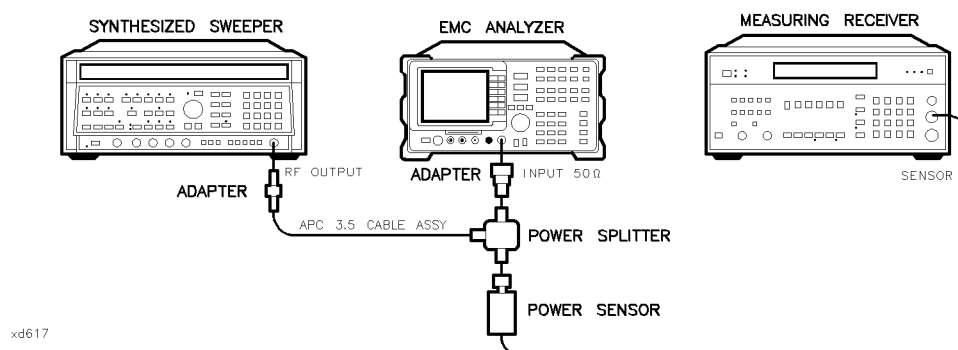

Figure 2-31. Frequency Response Test Setup, ≥ 50 MHz, HP 8596EM
2. Connect the equipment as shown in Figure 2-31.